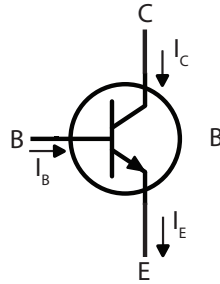

Figure 3: a) Block diagram of BJT.
There are two distinct kinds a BJT, a *npn* and a *pnp* where the *n* and *p* refer to the kind of doping in each layer of the semiconductor (see notes for more details). They have similar properties and in this lab we will only study the former. The circuit symbol for a *npn* BJT is shown in Fig. 3. Unlike all other electrical elements we have looked at, the transistor has 3 electrical connection points (or ports) which are labeled as Collector (C), Emitter (E), and Base (B).